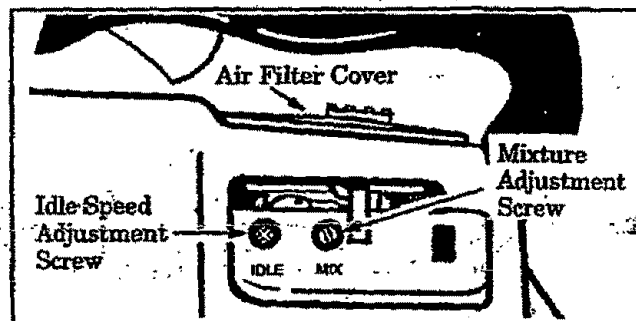

Figure 12
- b. Turn Mixture Screw (Figure 12) clockwise until fully closed, but do not overtighten. Figure 12. Turn mixture screw one full turn counterclockwise.
- c. Turn Idle Speed Screw (Figure 12) clockwise until it stops. Do NOT overtighten. Turn screw three full turns counterclockwise.